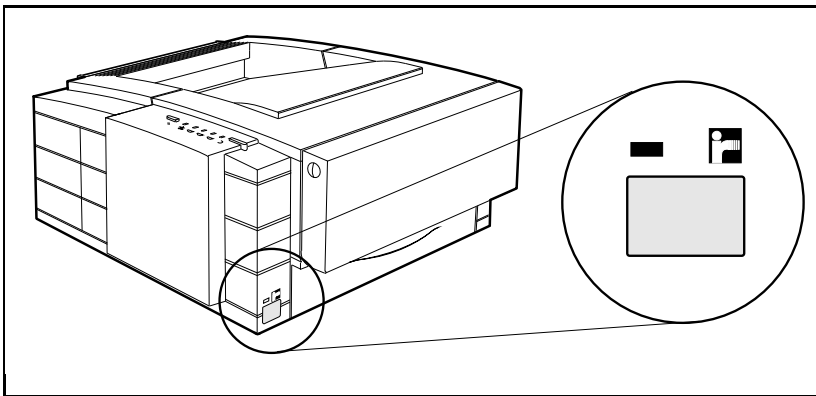
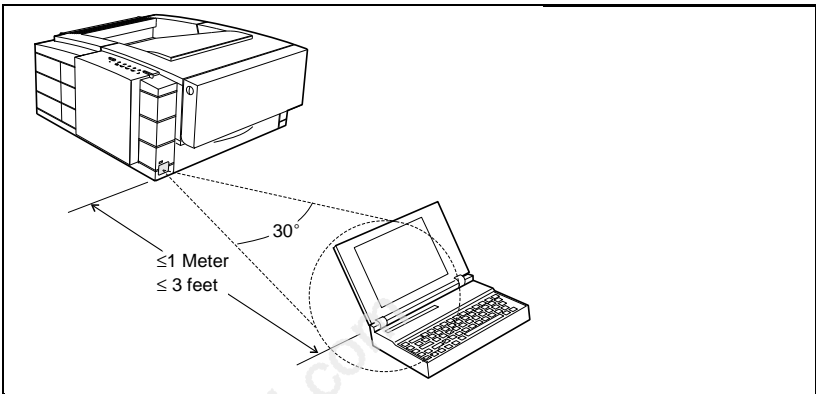

Figure 9 IrDA Port Location (5P/5MP shown)
Figure 10 IRDA Port ranges (5P/5MP shown)
The infrared (IR) port on your HP LaserJet 5P/5MP or 6P/6MP printer is located on the lower front left corner of the printer (Figure 9). This port is compliant with the specifications determined by the Infrared Data Association (IrDA). Just above the port is a status light that indicates when the port is activated. To use the IR port, you need to use a portable device that also includes an IrDA-compliant IR port and be within the range of operation (see Figure 10).
2. Align your laptop computer (or other portable equipment) that is equipped with an IrDA-compliant IR port within 3 feet (1 m) of the IR port on the printer and at an angle of  $\pm 15$  degrees to ensure printing (Figure 10).
If all these elements are properly installed and configured, use the IR test tool to test the IrDA protocol transmission and device operation. This tool for troubleshooting IR communication problems, shown in Figure 10, has been developed by Genoa Technology, Inc., in cooperation with Hewlett-Packard. The part number is 5062-4661 and can be ordered through HP Parts Direct Ordering.